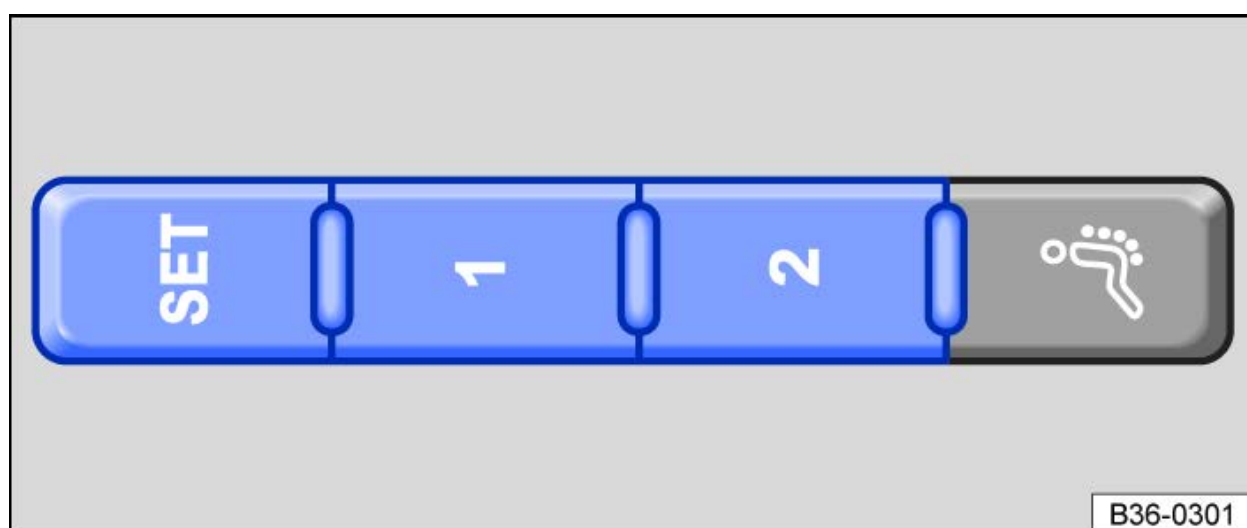

Fig. 1 On the outer side of the driver's seat: memory buttons.
- Press and hold the **SET** button for longer than one second → *fig. 1*.